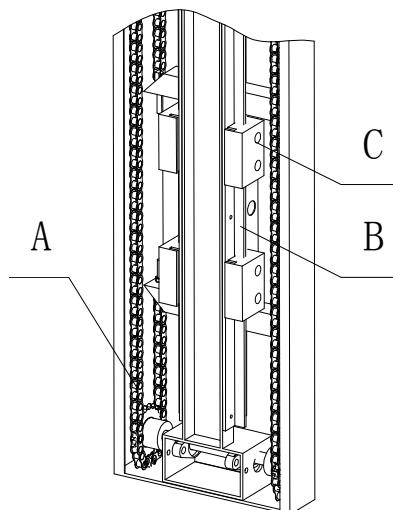

FIG 5-1
- 1.1) Open the motor cover, carefully lubricate the chain (wheel) A with lubricating grease, and lubricate the whole chain transmission mechanism. (FIG 5-1) (maintenance once every 3 months recommended)
- 1.2) Lubricate the slide rail B of the lifting unit (travel range of slide rail C) (Fig. 5-1) with an appropriate amount of lubricating grease. (maintenance once every month recommended)